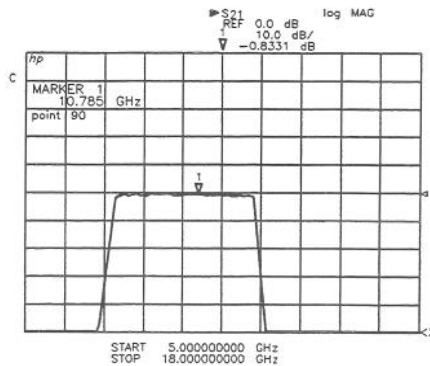

Figure A-2. HP 85381A/C/D Typical Insertion Loss at 25° C
- B. Enter the loss of the cable connecting the RF source to the source amplifier. Refer to Figure A-2.
- Enter the loss of the cable connecting the RF source to the source amplifier. Refer to Figure A-2.